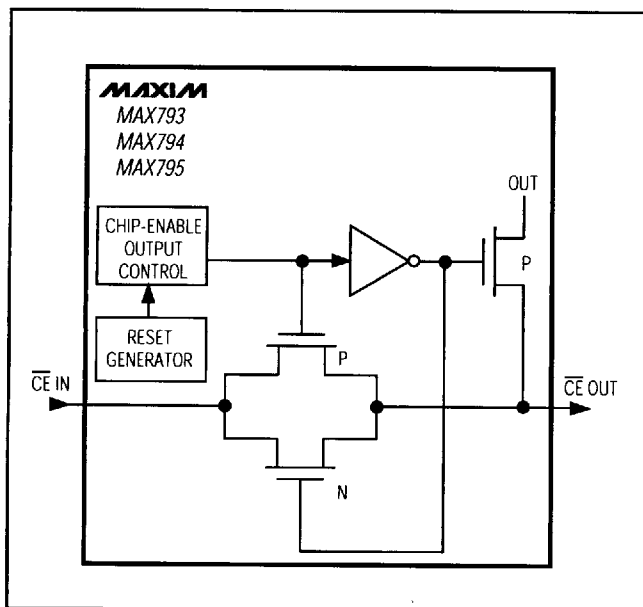

Figure 7. Chip-Enable Transmission Gate
Internal gating of chip-enable (CE) signals prevents erroneous data from corrupting CMOS RAM in the event of an undervoltage condition. The MAX793/MAX794/MAX795 use a series transmission gate from $\overline{CE}$ IN to $\overline{CE}$ OUT (Figure 7). During normal operation (reset not asserted), the CE transmission gate is enabled and passes all CE transitions. When reset is asserted, this path becomes disabled, preventing erroneous data from corrupting the CMOS RAM. The short CE propagation delay from $\overline{CE}$ IN to $\overline{CE}$ OUT enables these µP supervisors to be used with most µPs. If $\overline{CE}$ IN is low when reset asserts, $\overline{CE}$ OUT remains low for typically 10µs to permit completion of the current write cycle.